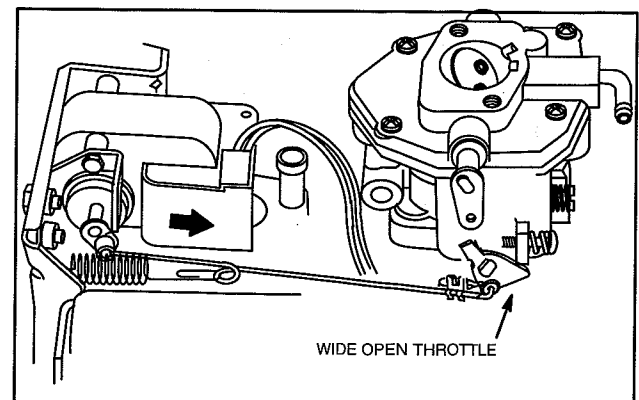

Fig. 35 – Static Check
3. Actuator should move throttle lever to wide open position, Fig. 35.